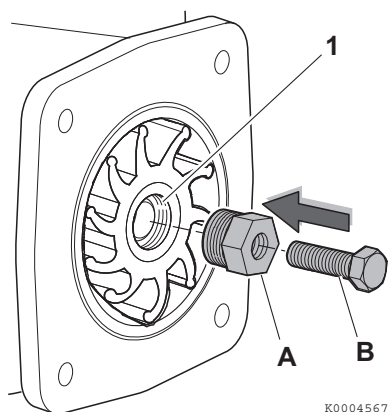
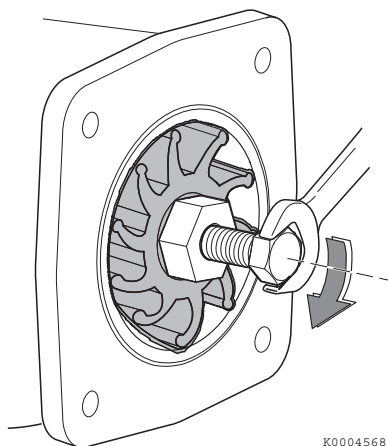

Figure 17
Figure 18
Note: When replacing a used impeller with a new one, the impeller must have an M18 x1.5 thread (Figure 17, (1)). Turn the M18 screw side of the impeller to the cover side and install (Figure 18).